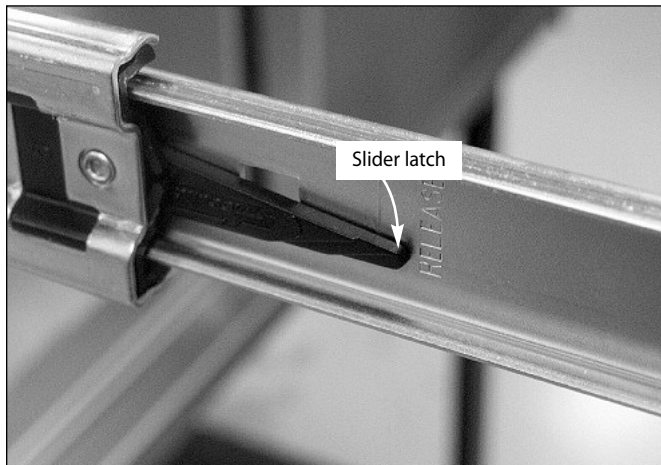

Fig. 58
1. To remove the drawers, pull them out until their slider latch is visible. Carefully push the latch down on the left side while pulling up on the latch on the right side and pull the drawer completely out of the frame (Fig. 58 and 59).